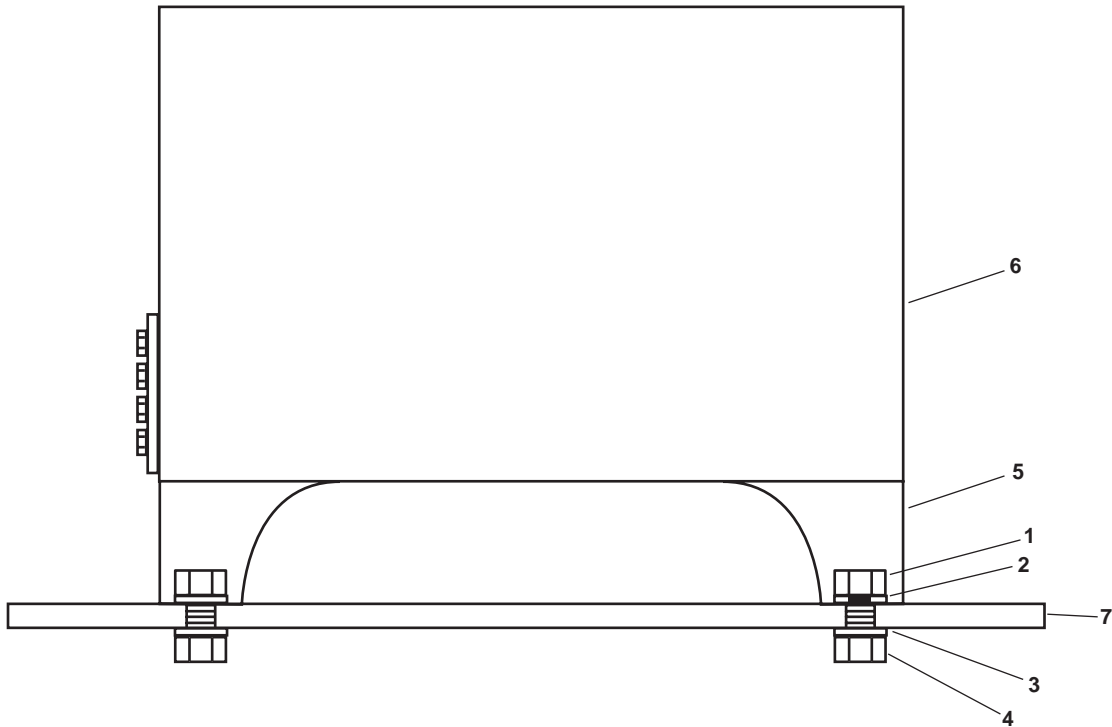

Figure 1. Towing Machine Hydraulic Reservoir
1. Remove the four bolts (figure 1, item 1), four lockwashers (figure 1, item 2), four washers (figure 1, item 3), and four nuts (figure 1, item 4) from the legs (figure 1, item 5) of the hydraulic reservoir (figure 1, item 6). Discard the lockwashers.
2. Remove the hydraulic reservoir (figure 1, item 6) from its foundation (figure 1, item 7).
1. Install the reservoir (figure 1, item 6) on the foundation (figure 1, item 7).
2. Install the four bolts (figure 1, item 1), four new lockwashers (figure 1, item 2), the four washers (figure 1, item 3), and the four nuts (figure 1, item 4), through the legs (figure 1, item 5) and into the foundation (figure 1, item 7).